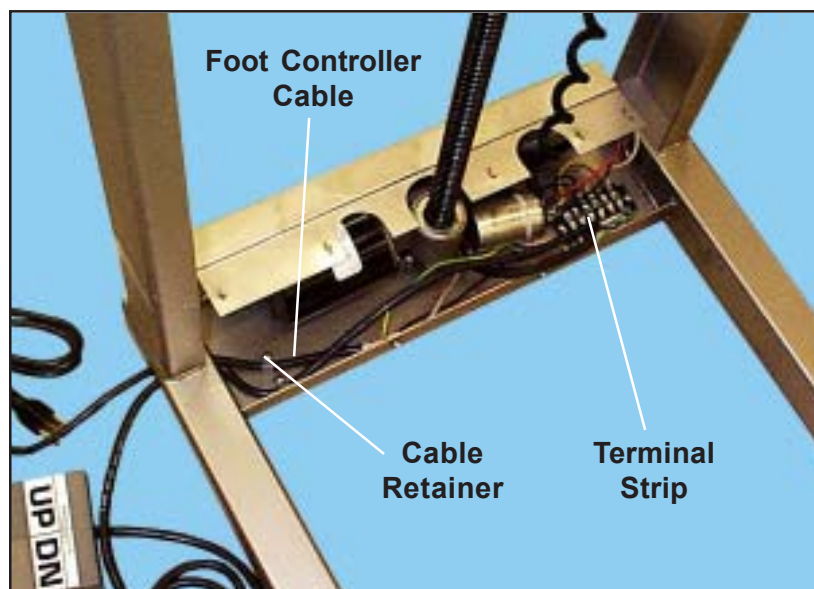

Figure 36. Foot Controller Cable and Terminal Strip
5. With a Phillips screwdriver, remove the cable retainer and free the foot controller cable (Figure 36).
3. Place the cable into the cable retainer and re-mount the retainer in the tray (Figure 36).